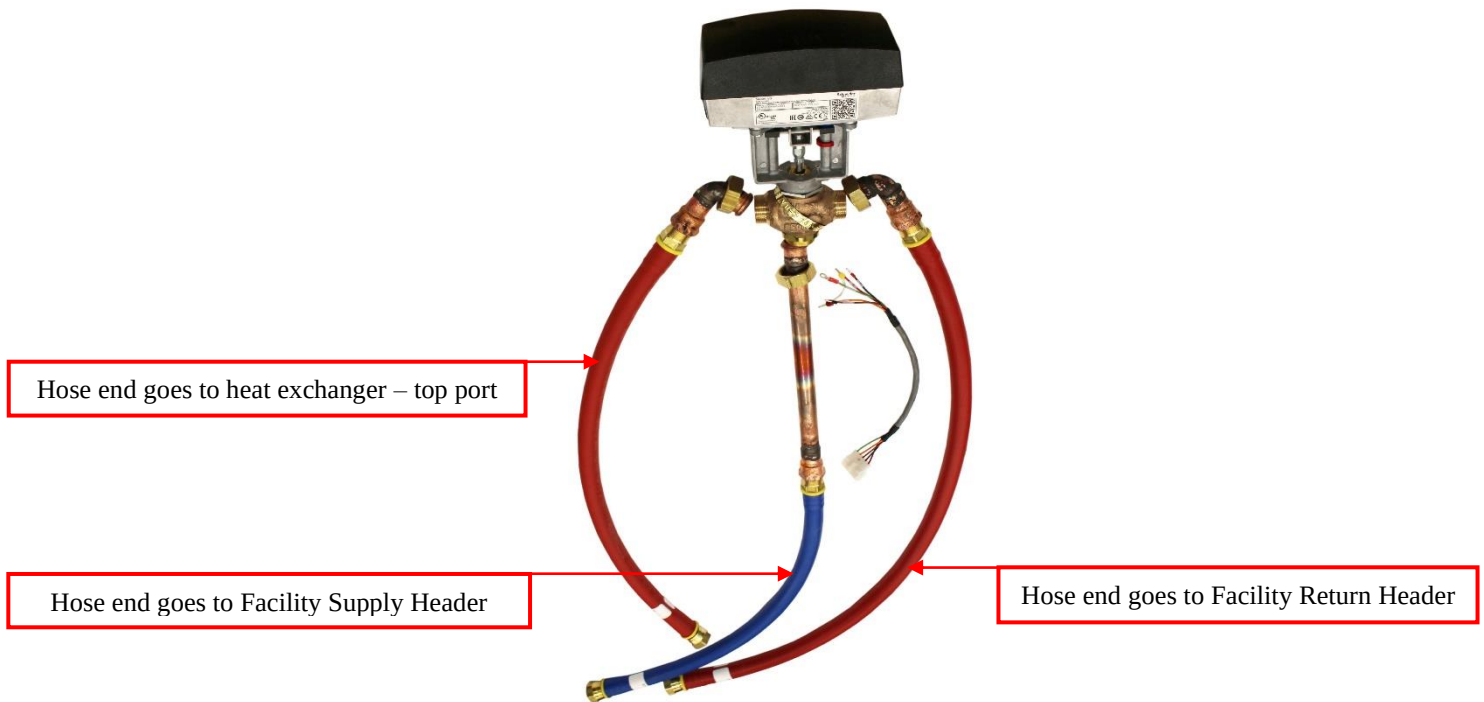

Figure 12 GC Mixing valve detail showing ports A, B, and AB for reference
- a. Push back insulation around the 'B' side of the mixing valve. Using a $\frac{3}{4}$ " wrench and an Adjustable wrench loosen the $\frac{3}{4}$ " hose connector going to the 'B' port of the mixing valve. See Figure 12 below for port locations and destination reference (GC or PE side)